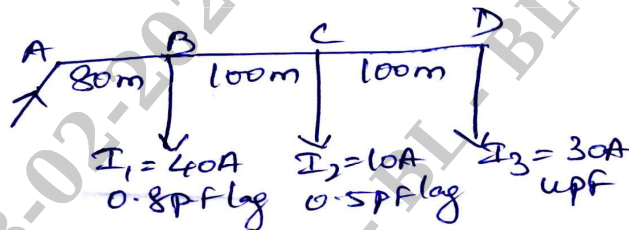

Fig. Q9(b)
- b. The loading on a distributor is shown in Fig. Q9(b). The distributor is a 2 core cable for which the resistance and reactance are 0.35Ω and 0.185Ω per 1200 m of cable run respectively. What should be the voltage at point A to maintain 420V at point D if the power factor is referred to the far end voltage at D? (10 Marks)